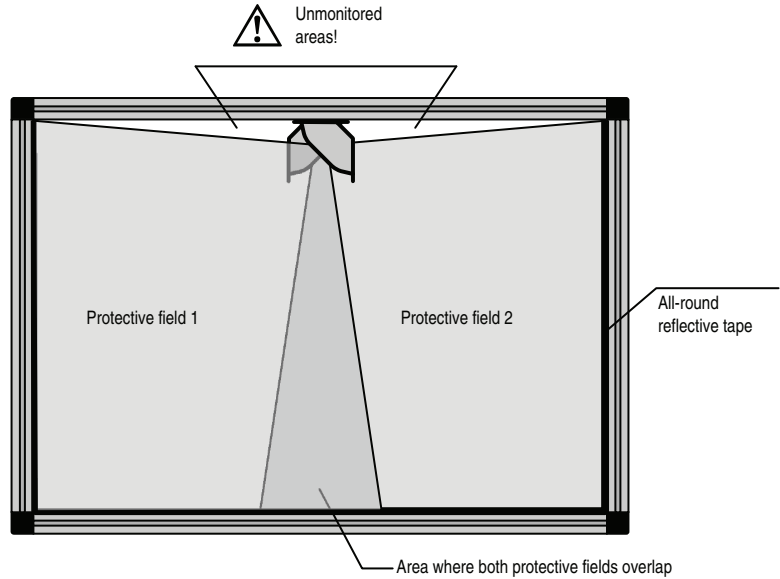

Figure 30 - Application with large protective field (2 x SC300)
- Guide the test rod slowly along the outer edge of the protective field as shown in Figure 30.